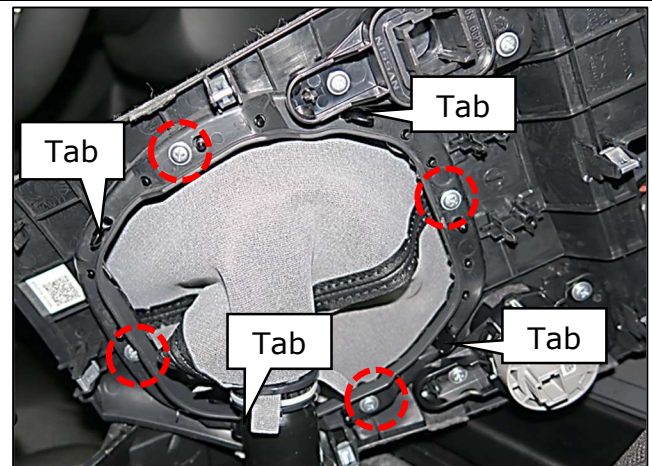
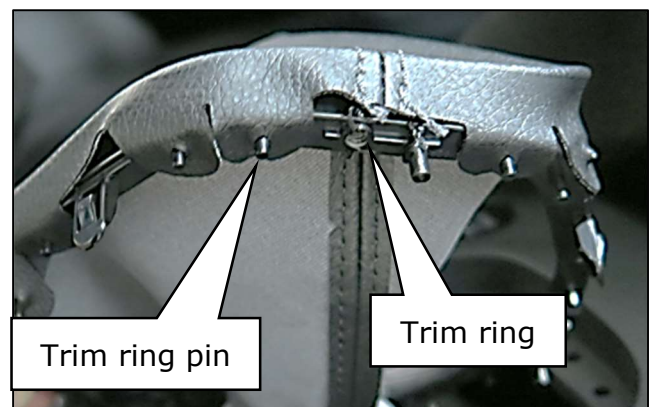

Figure 11
Figure 12
- Remove the (4) screws shown in Figure 11
- Carefully push upward on each of the (4) tabs
- Remove the shift boot trim ring from the shift boot by lifting the shifter boot off of each of the trim ring pins (Figure 12)